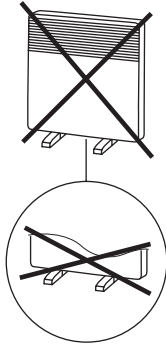

figure 1
**The heater must be wall mounted (see figure 1).**